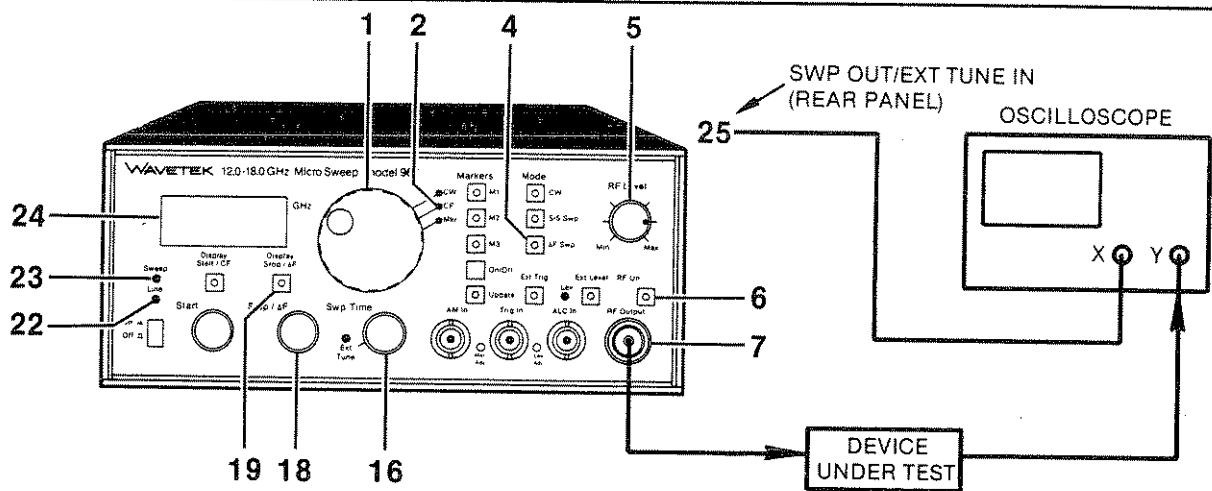

Figure 3-5. ΔF Sweep Operation
In the ΔF Sweep mode, the frequency sweeps symmetrically upward centered on the center frequency (CF). The Main Tuning knob 1 sets the center frequency, while the Stop/ ΔF knob 18 sets the total frequency deviation. The Swp Time knob controls the sweep rate. Frequency markers can be used with ΔF Sweep; refer to paragraph 3.2.5. Figure 3-5 indicates the primary controls for the ΔF Sweep operation.